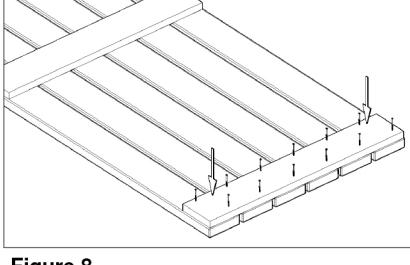

Figure 8
- In order to keep the grid boards connected after cutting, install another crosspiece to the bench grid. (Figure 8)